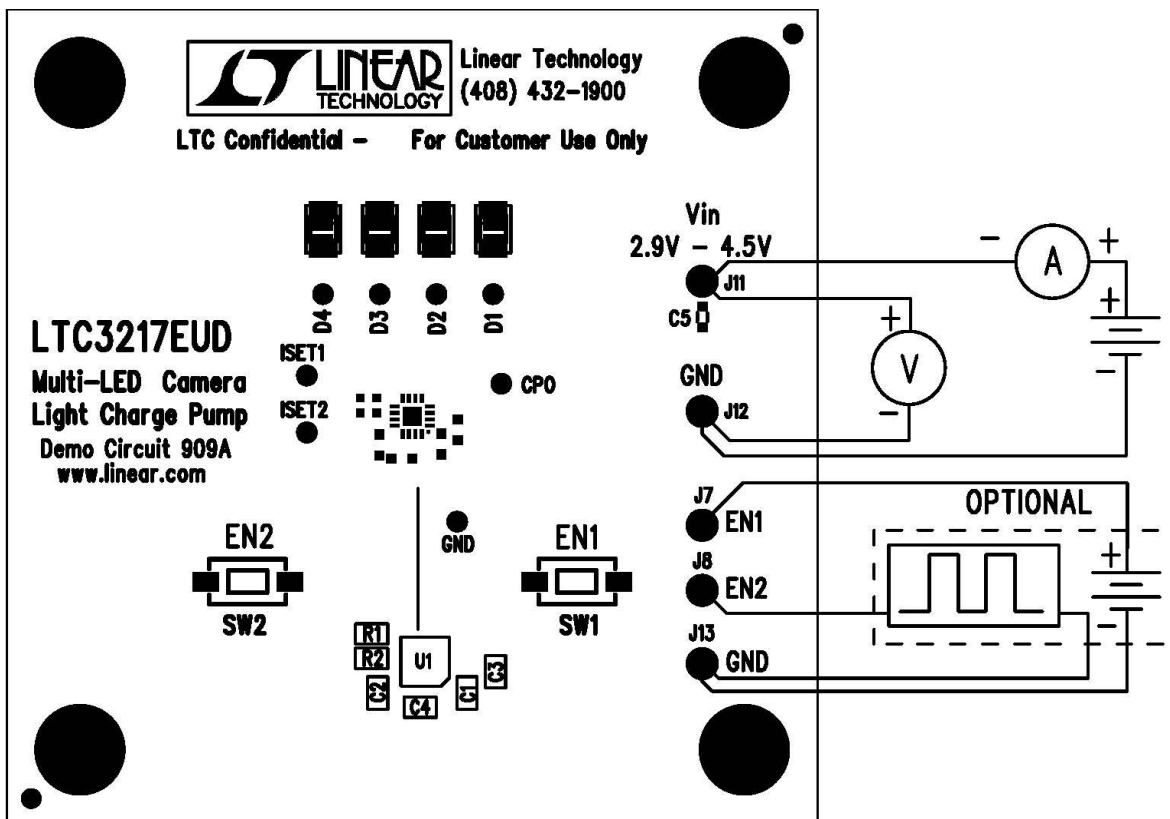

Figure 1. Proper Measurement Equipment Setup for DC909
1. Connect the DC power supply across the **Vin** and **GND** terminals of the board as shown in Figure 1. For best stability and noise performance, use the shortest leads possible between the board and the supply. Capacitor C5 has been placed on the board to assist in offsetting the effects of long power supply leads.